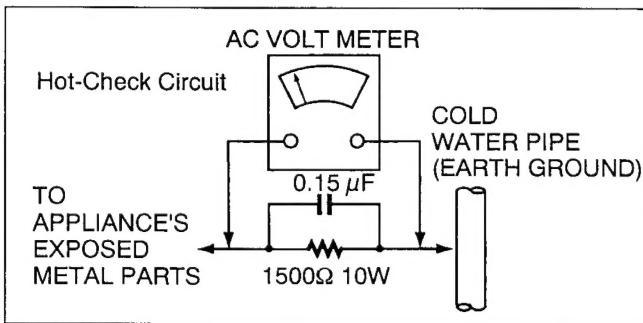

Figure 1
## LEAKAGE CURRENT HOT CHECK (See Figure 1)
2. Connect a  $1.5\text{K}\Omega$ ,  $10\text{W}$  resistor, in parallel with  $0.15\mu\text{F}$  capacitor, between each exposed metallic part on the set an a good earth ground such as a water pipe, as shown in Figure 1.